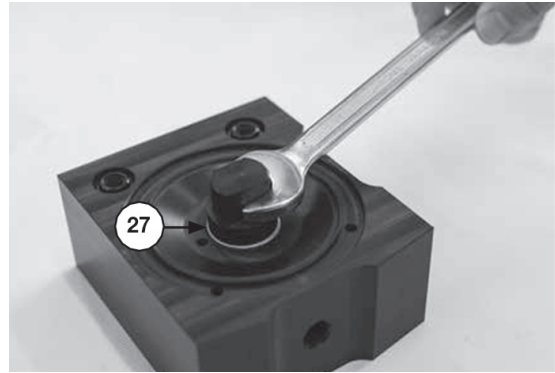

Figure 11
Unscrew both end caps of the air valve (27) by using the special tool (see Figure 11).
Remove the end caps, the main-valve and the air valve shaft out of the the air-valve (27). Screw one end cap flush into the centre housing (01) by using the special tool (see Figure 11). Put 1 off the six air- valves housing o-rings part of (27) into the end cap.
Put the last air-valve housing o-ring on top of it and screw the second end cap flush with the centre housing using the special tool (see Figure 11).